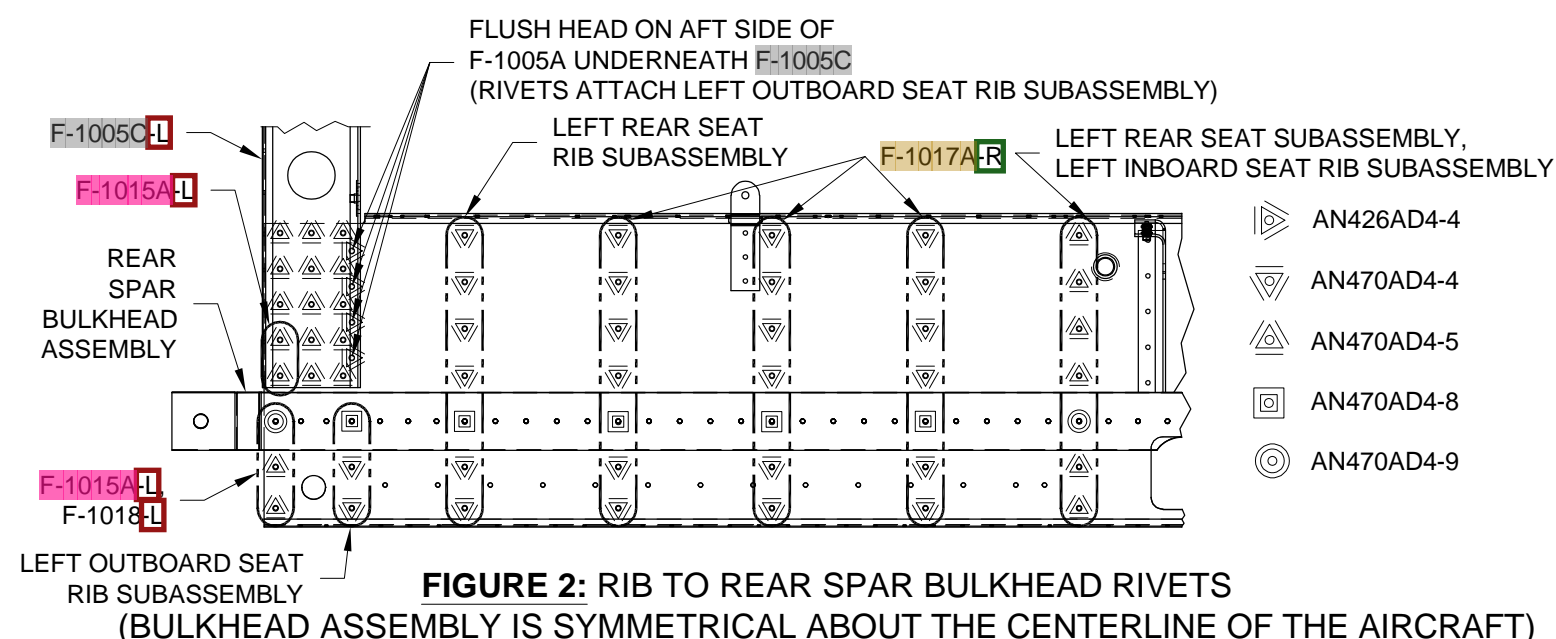

FIGURE 2: RIB TO REAR SPAR BULKHEAD RIVETS
Step 5: Cleco the **F-1017A-L** and **R** Rear Seat Ribs, Left and Right Rear Seat Rib Subassemblies and **F-1018-L** and **R** Outboard Rear Seat Ribs to the Rear Spar Bulkhead Assembly as shown in Figure 2 and Figure 3. Final-Drill #30 all the holes common between the ribs and the rear spar bulkhead.